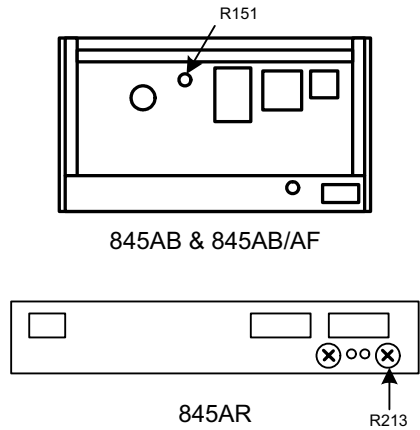

Figure 1. High impedance voltmeter - null detector - rear view.
(1) Set **RANGE** switch to **10 μ** .
(2) Connect calibrator to **TI INPUT** and **COMMON** terminals.
(3) Adjust calibrator dials to **10.000000**.
(4) Adjust R151 (R213 for model 845AR) (fig. 1) to obtain full-scale (+10) deflection on TI meter (R).